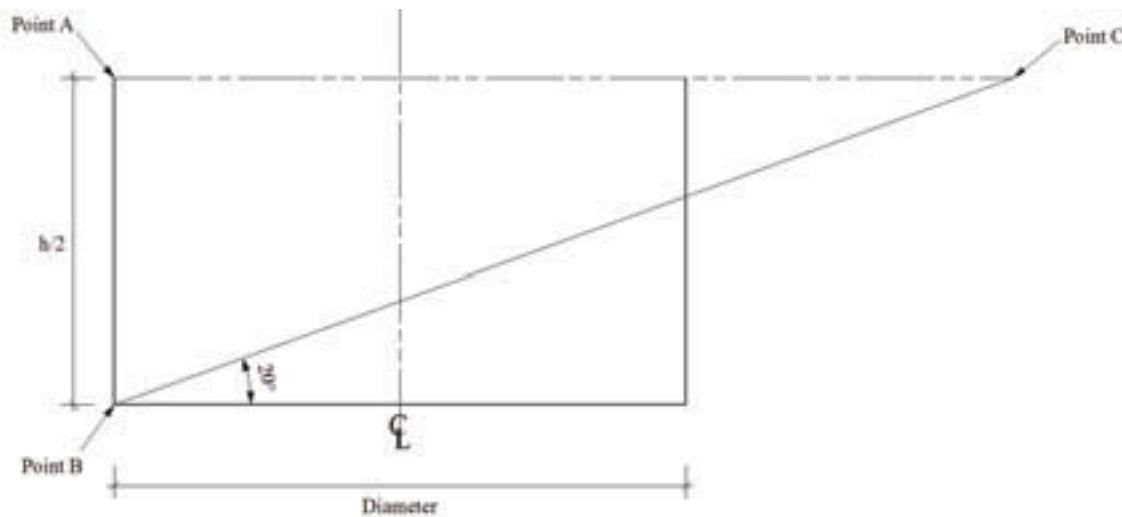

Fig. 79: Tank shape, bottom — Step 2
5. Draw a line with an angle of 20° from the lower left hand corner of the tank (Point B) and extend it until it crosses the line just drawn at the tank midpoint. Label the intersection of these two lines as Point C (figure 79).